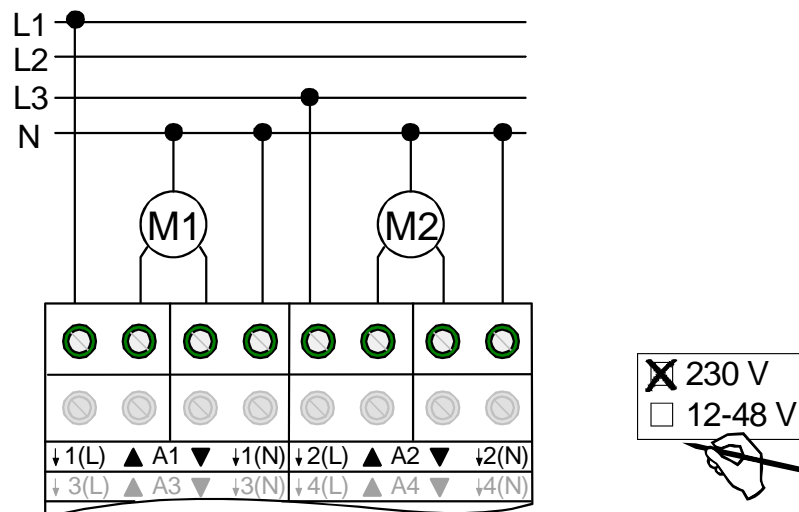

Fig. 3: Electrical connection for 230 V drives with automatic end position detection
- Connect the drives with mechanical limit switches as shown in Fig. 3 (wiring example).